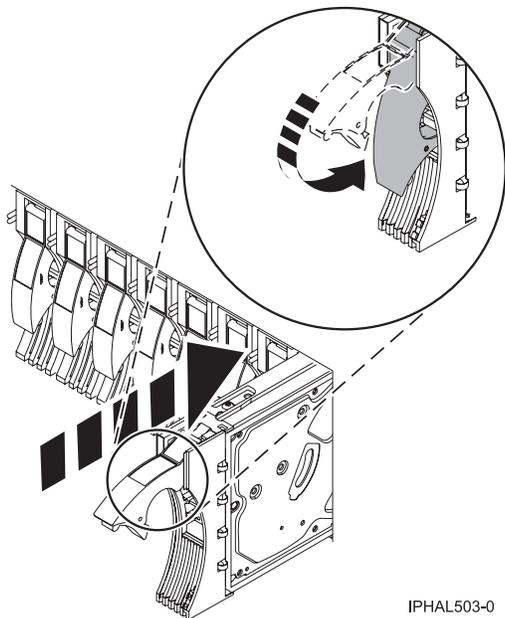

Figure 20. Installing a disk drive in a model
8. Push the disk drive handle in until it locks, as shown in Figure 20 on page 22.